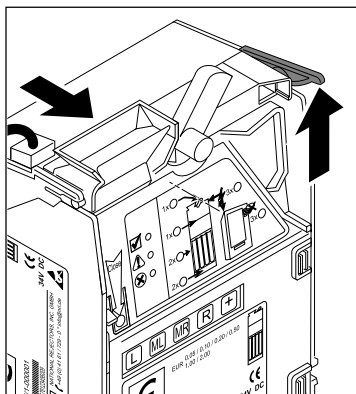

Fig. 7a: Folding out the coin validator
- 1 Fold the coin validator out of the changer (see Fig. 7a).